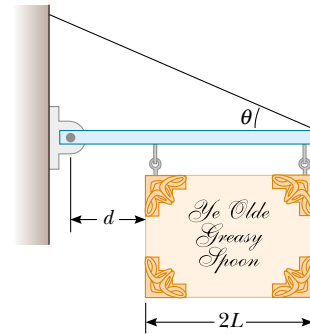

Figure P12.45
- WEB 45. A uniform sign of weight F_g and width $2L$ hangs from a light, horizontal beam hinged at the wall and supported by a cable (Fig. P12.45). Determine (a) the tension in the cable and (b) the components of the reaction force exerted by the wall on the beam in terms of F_g , d , L , and θ .